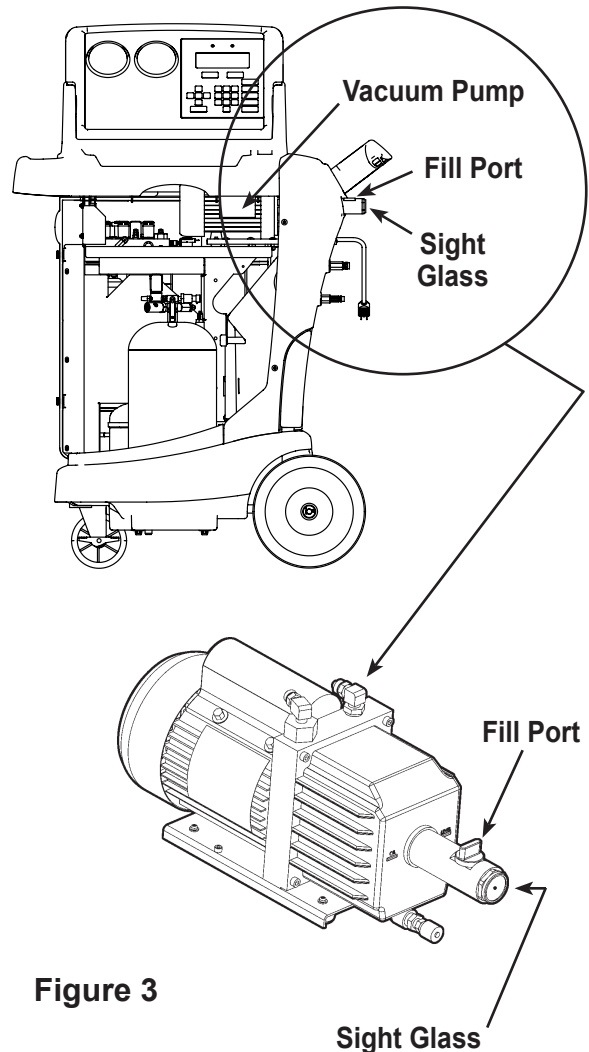

Figure 3
1. Remove the brass plug from the vacuum pump oil fill port. See Figure 3.
2. Attach the flexible tube/cap to the oil bottle; **pour only five (5) ounces** of vacuum pump oil into the fill port. *Note: You will top off the oil in the next step as the vacuum pump is running.*